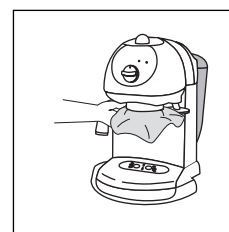

fig. 23
- Clean the boiler with a damp cloth (fig. 23).